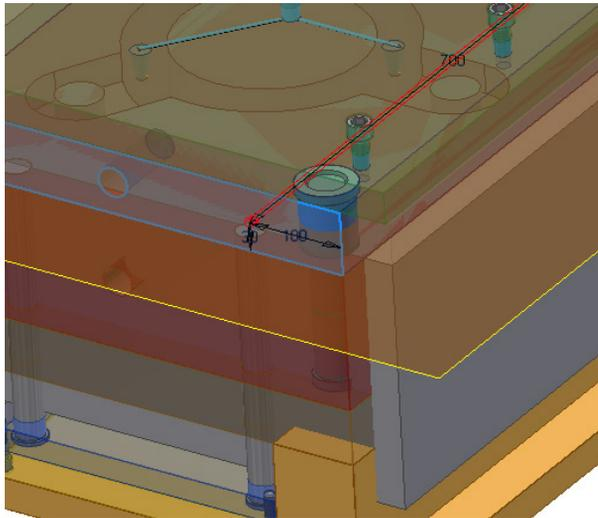

Figure 19-72 Preview of the cooling channel
6. Click on these dimensions and specify the value **30** for vertical distance and **100** for horizontal distance; a preview of the cooling channel is displayed, as shown in Figure 19-72.